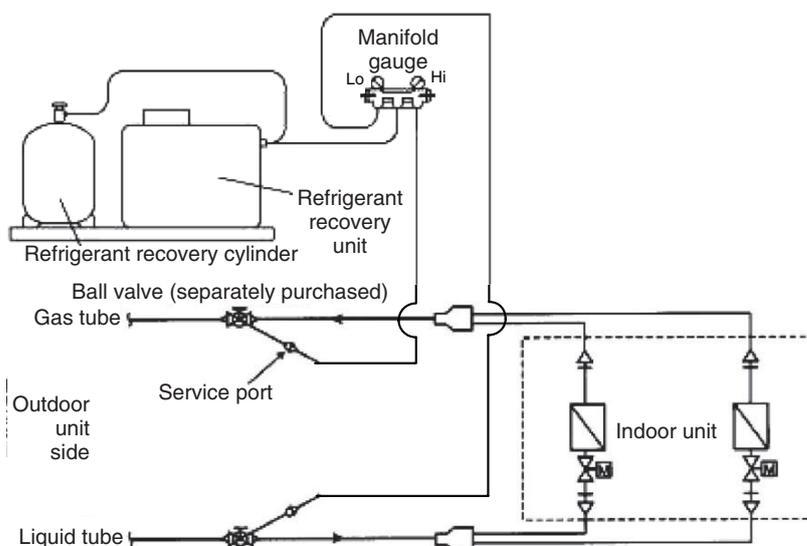

Fig. 4
- (1) If a ball valve with a service port has been provided in the indoor unit as shown in Fig. 4, follow the instructions given in (2) through (6) below. If the service port is instead located in the outdoor side, follow the instructions in “4-2-3. Refrigerant recovery procedures (2).”
- (2) After running the unit in Cooling mode for about 5 minutes as described in “4-2-1. Cooling operation (for all units),” fully close the liquid tube ball valve.
- (3) Run the unit in Cooling mode for 10 to 20 minutes more.
- (4) Fully close the gas tube ball valve, and stop the operation of all units.
- (5) Use hoses to connect the manifold gauge valves, refrigerant recovery unit, and refrigerant recovery cylinder with each other. (Fig. 4) Do each connection quickly to prevent air from entering the tubing.